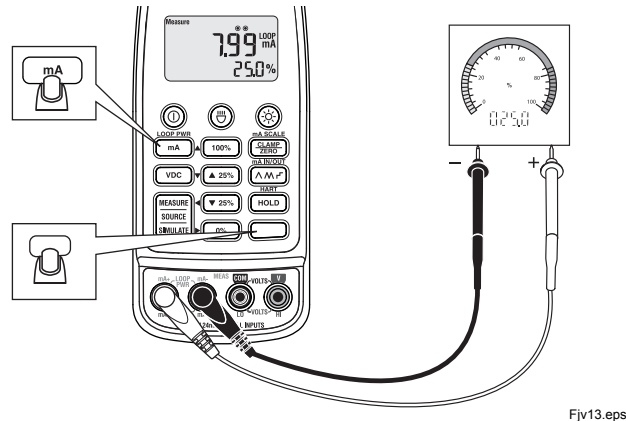

Figure 10. Using Loop Supply Mode
In Loop Supply mode, the Meter powers a transmitter while measuring the mA signal. To enter Loop Supply mode, see Figure 10:
1. Insert the test leads into the **LOOP PWR** jacks. See Figure 10.
To replace the batteries, see Figure 10: